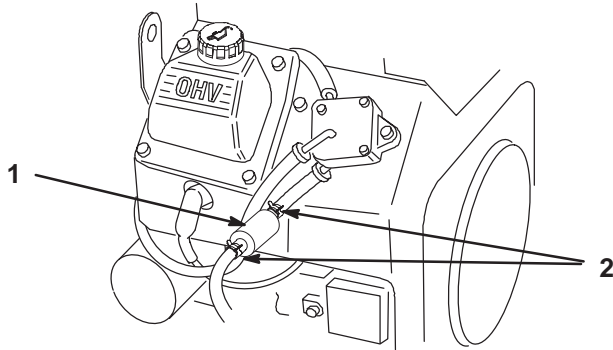

Figure 41
3. Squeeze the ends of the hose clamps together and slide them away from the filter (Fig. 41).